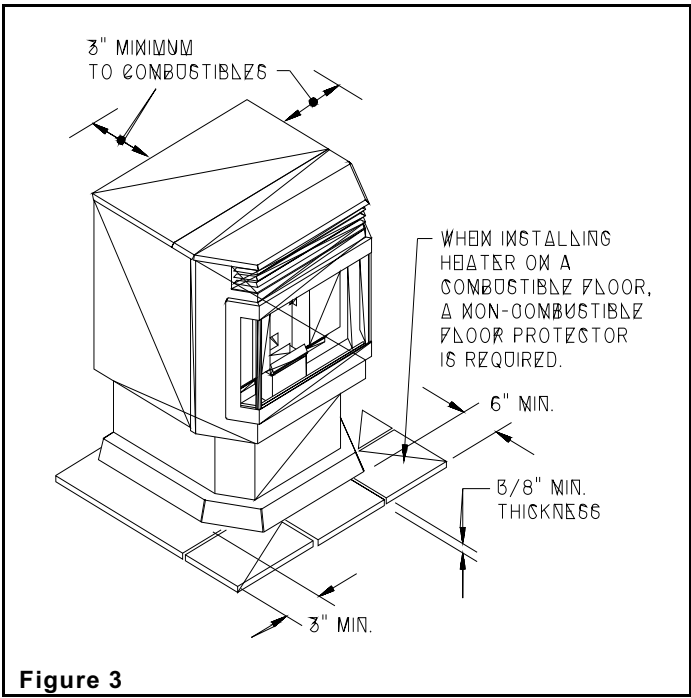

Figure 3
4. **A non-combustible hearth pad must be used if installed on a carpet, wood floor or other combustible material** (see Figure 3).
IMPORTANT: The Fire Pot must be seated flush and must sit even in the pot tray. Air leaking around the Fire Pot will create a poor burn (Figure 3). Light the pellets in Fire Pot using any approved pellet lighter.